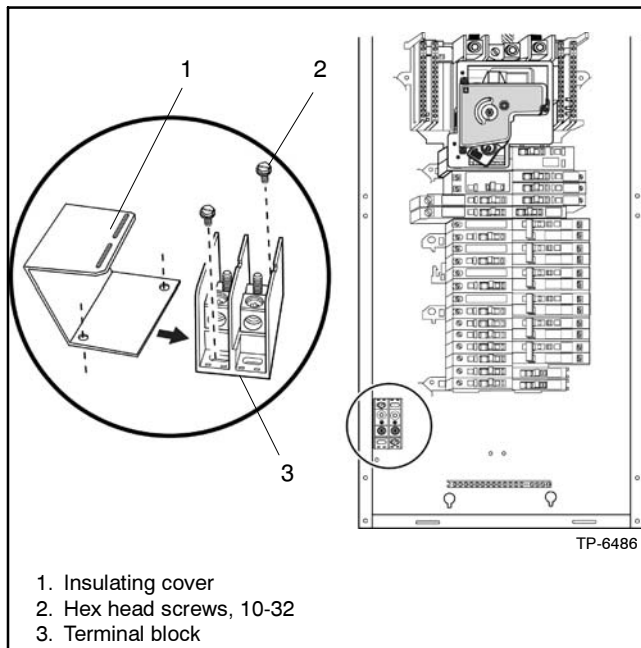

Figure 2-15 Installing Generator Terminal Block
1. An insulating cover is provided with the generator terminal block. Bend the cover to fit around the terminal block before installing it. See Figure 2-15.